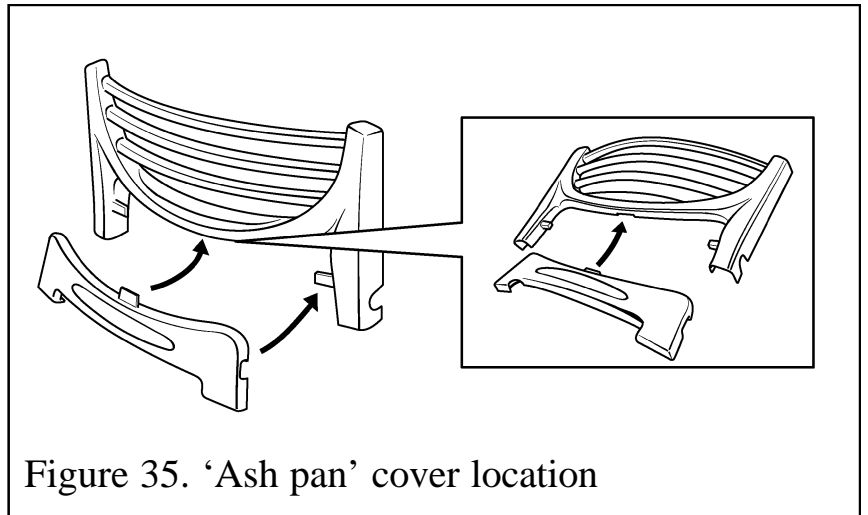

Figure 35. 'Ash pan' cover location
3. Fit the front cover casting below the front casting locating it as shown in figure 35.